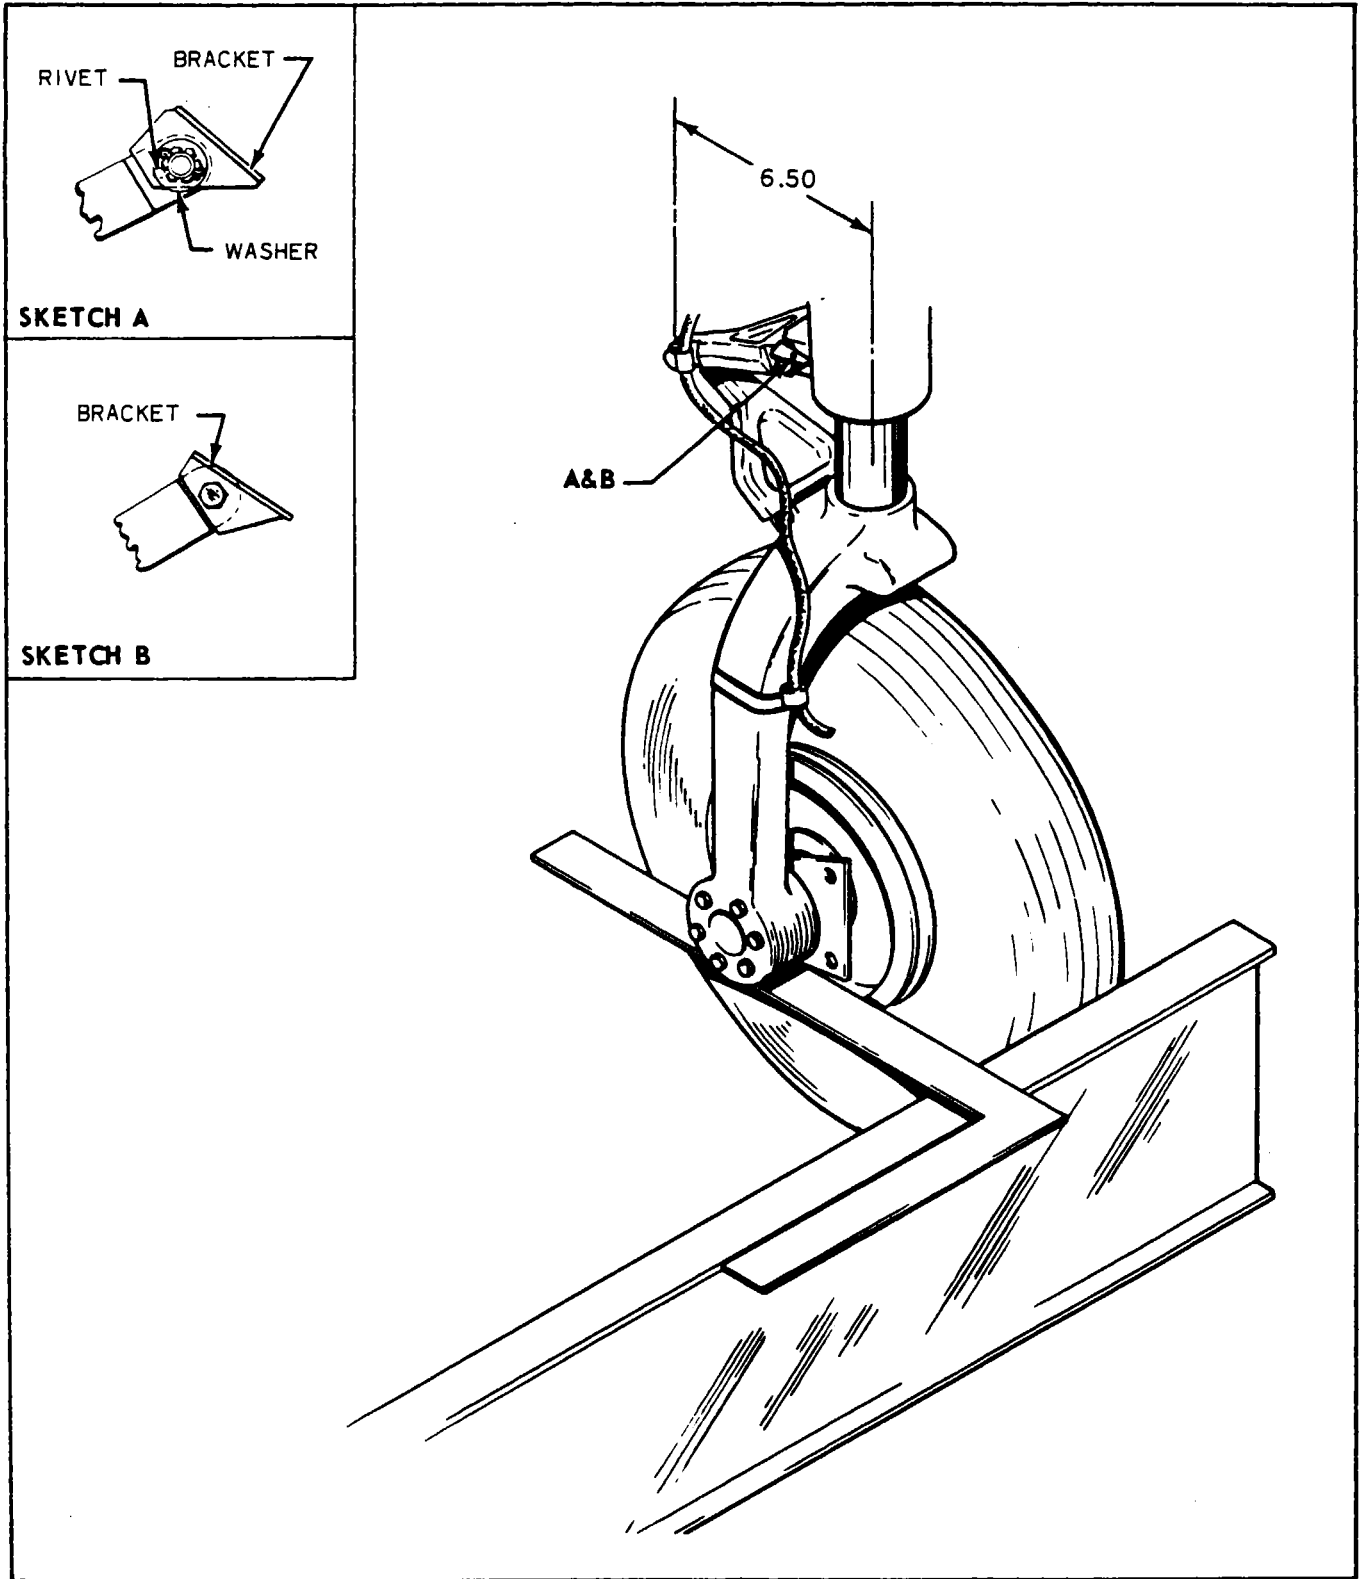

Figure 7-7. Aligning Main Gear
7-25. ALIGNMENT OF MAIN LANDING GEAR. (Refer to Figure 7-7.)
- g. If a new link on the top left main gear had to be installed or it had to be reversed during the alignment check, it will be necessary to check the gear safety switch (squat switch) bracket for engagement and locking in place. If the large machine surface of the link is inboard, the bracket is mounted with the small rivet hole next to link. (Refer to Sketch A, Figure 7-7.) This hole should be aligned with centerline of the link and a .096 inch hole drilled .150 inch deep. Insert an MS20426AD3-3 rivet in the hole. This locking rivet is held in place by the flat washer, castellated nut and cotter pin. If link has to be reversed, then the bracket and bolt are also reversed. (Refer to Sketch B, Figure 7-7.)